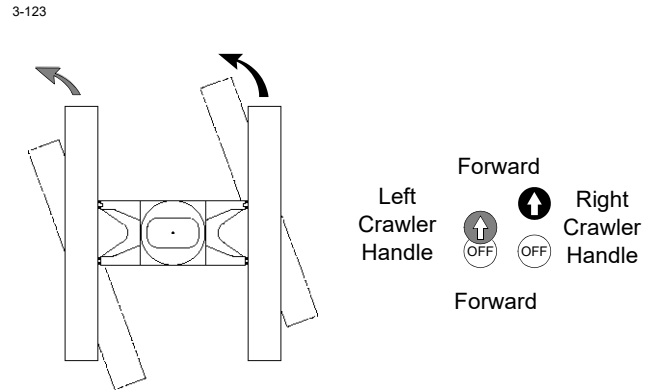
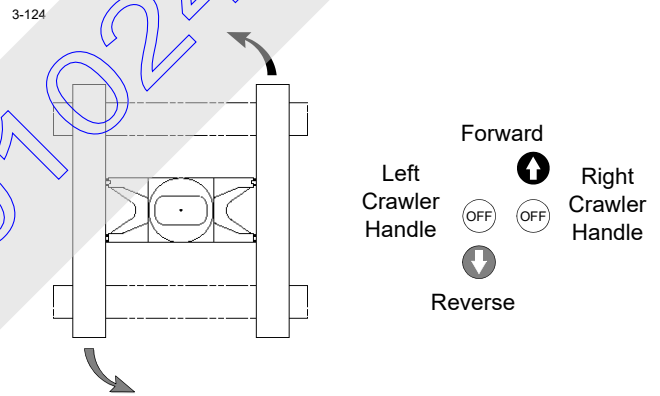

FIGURE 3-24
FIGURE 3-25
- Make gradual turns (Figure 3-24) or counter-rotate (Figure 3-25) whenever possible so both crawlers are always powered
- 12. To COUNTER-ROTATE LEFT (Figure 3-25), move right crawler handle to front from off and move left crawler handle to rear from off.
- 10. To make a GRADUAL LEFT TURN (Figure 3-24), move both crawler handles forward from off, but move right crawler handle farther forward than left crawler handle. Right crawler will turn faster than left crawler.